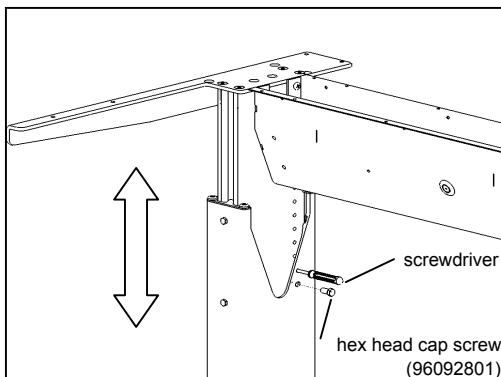

Figure 3. Height Adjustment.
2. To adjust height, place **screwdriver** through hole in outer leg above installed hex head cap screw. Remove 5/16-18x3/4" hex head cap screw using **1/2" wrench** (figure 3).